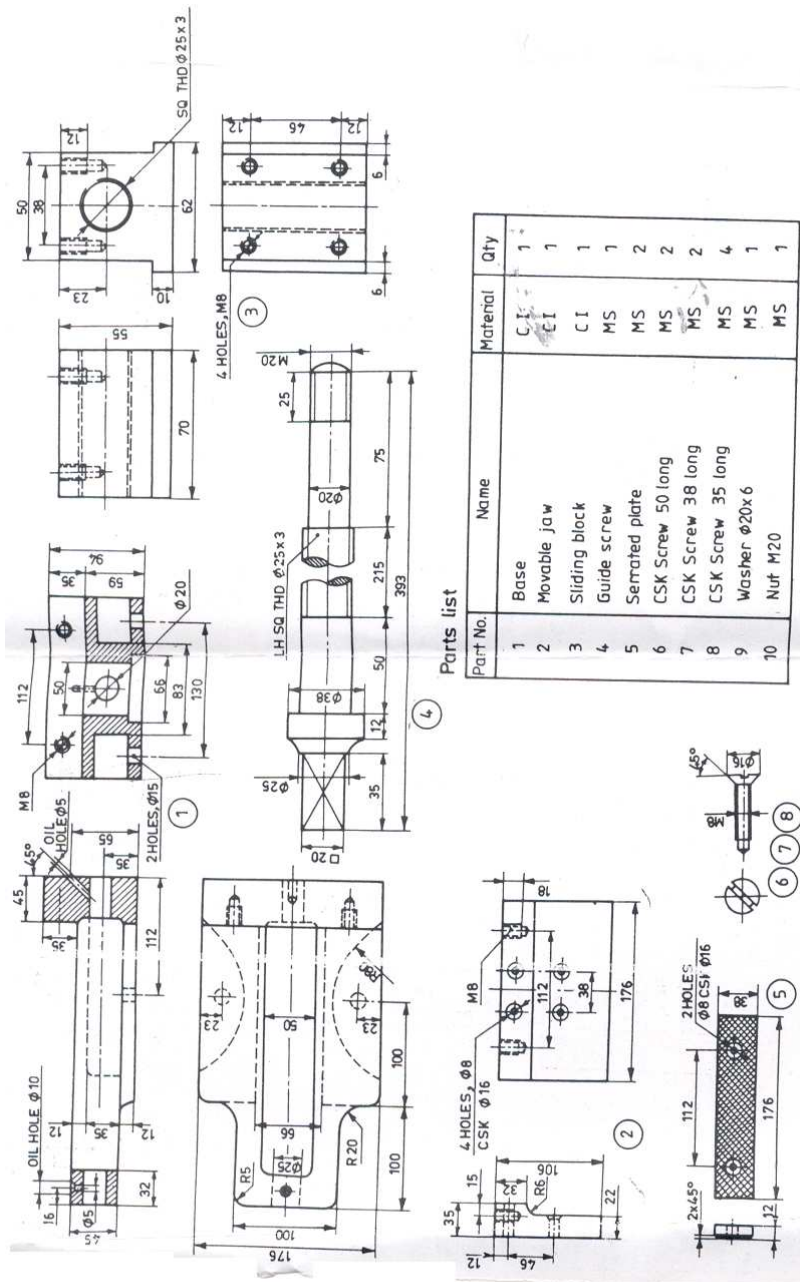

Figure 1:
2. Figure 1 shows details of the Machine vice. [50]